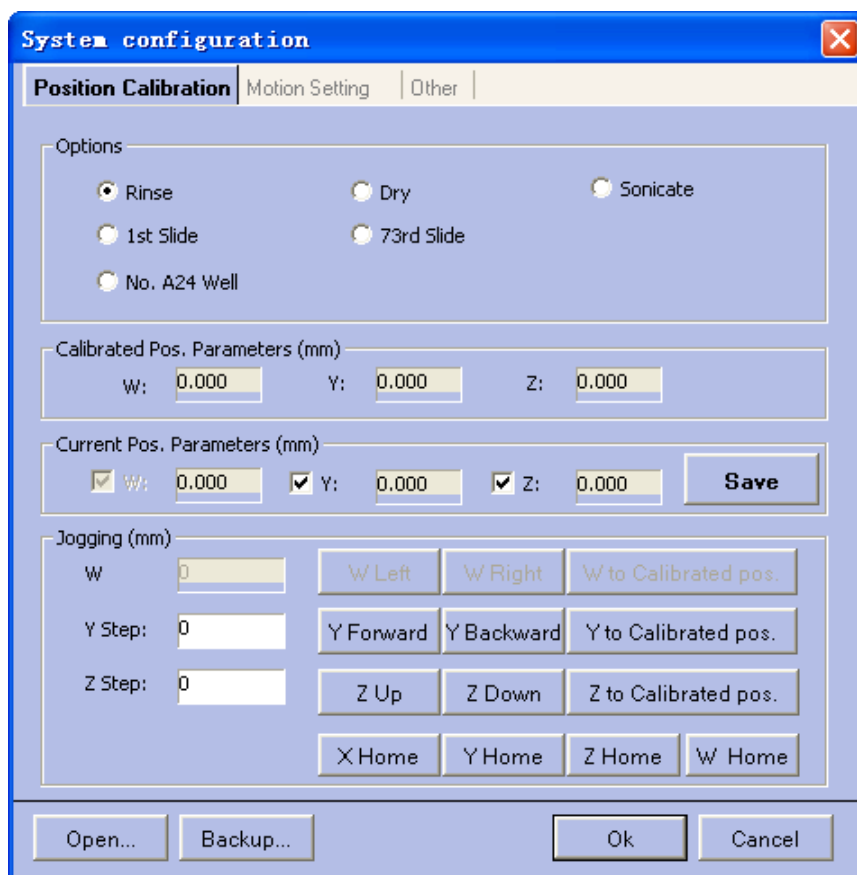

Figure 6-4 The 136S position calibration interface
- For the **136S**, the position calibration page of the configuration panel is as shown in Figure 6-4.